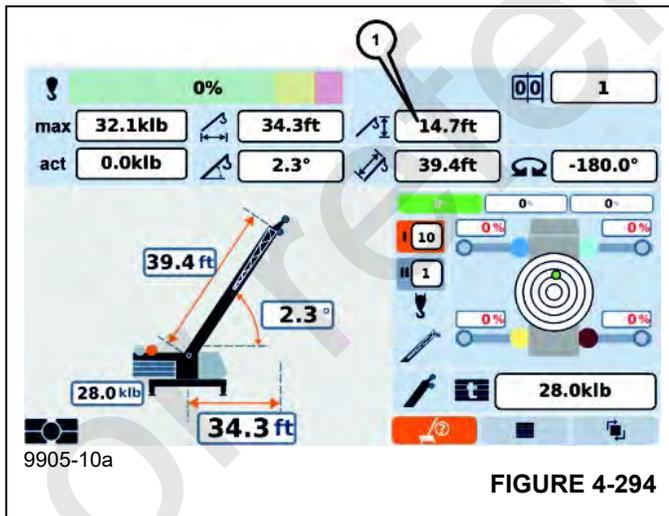

FIGURE 4-294
Overall height is the approximate vertical distance between the lower edge of the outrigger pad and the highest point of the main boom or lattice extension. The displayed value (1), (Figure 4-294) applies to fully extended outrigger cylinders on the largest outrigger span.